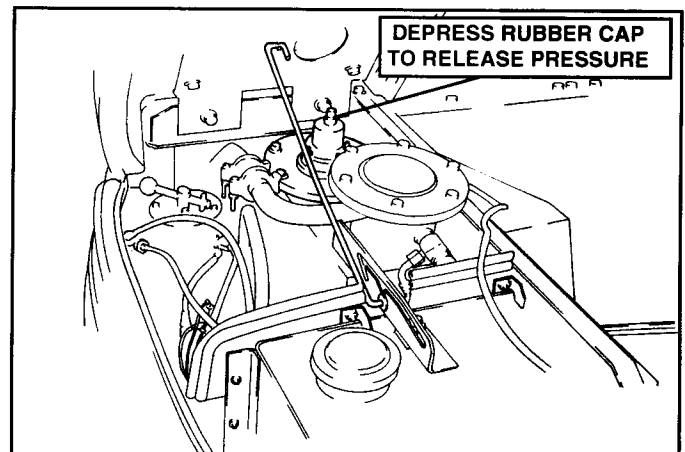

FIGURE 4.30
- a. Release hydraulic tank pressure. See Figure 4.30.